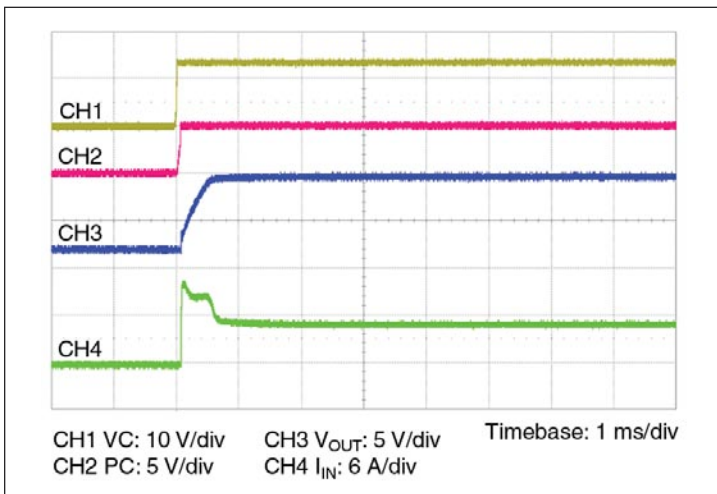

Figure 11 — Start up from application of VC;
- **Stand-alone operation (VC applied after V_{IN}):** In this case the VTM output will begin to rise upon the application of the VC voltage (See Figure 11). The Adaptive Soft Start Circuit (See Section 11) may vary the output rate of rise in order to limit the inrush current to its maximum level. When starting into high capacitance, or a short, the output current will be limited for a maximum of 1200 μ sec. After this period, the Adaptive Soft Start Circuit will time out and the VTM module may shut down. No restart will be attempted until VC is re-applied or PC is toggled. The maximum output capacitance is limited to 2300 μ F in this mode of operation to ensure a successful start.